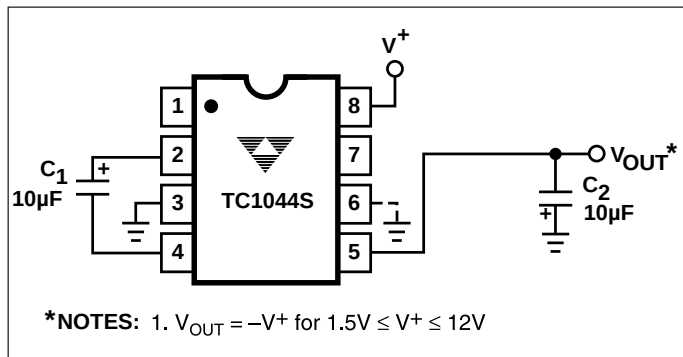
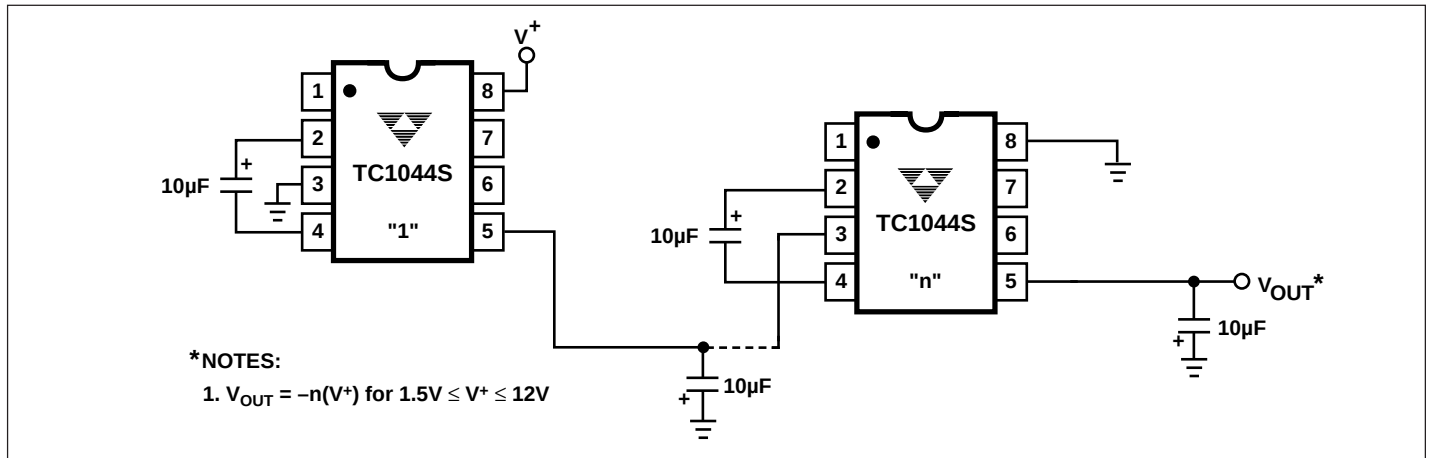
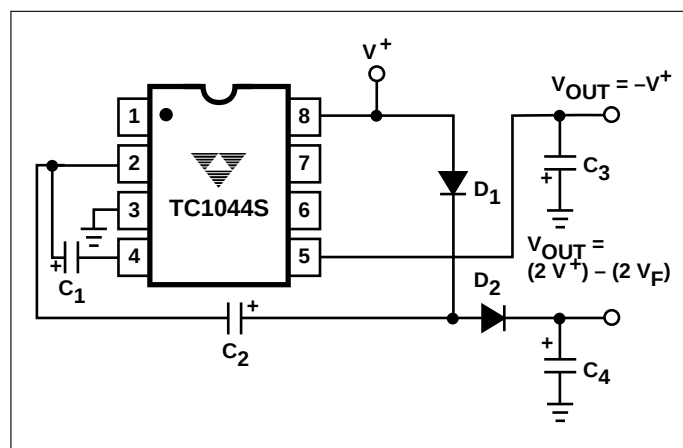
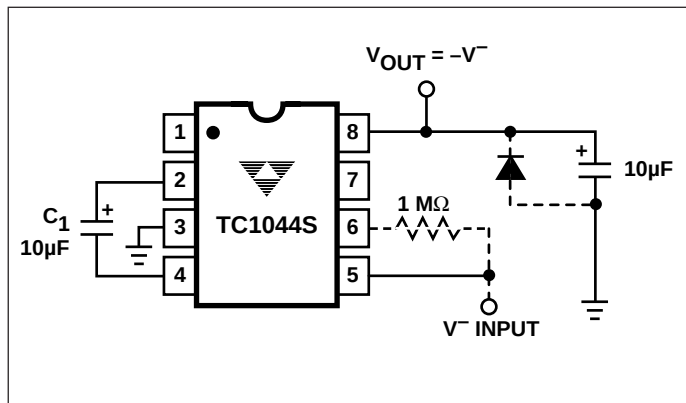

Figure 3. Simple Negative Converter
Figure 5. Increased Output Voltage by Cascading Devices
Figure 9. Combined Negative Converter and Positive Multiplier
Figure 10. Positive Voltage Conversion
Figure 3 shows typical connections to provide a negative supply where a positive supply is available. A similar scheme may be employed for supply voltages anywhere in the operating range of +1.5V to +12V, keeping in mind that pin 6 (LV) is tied to the supply negative (GND) only for supply voltages below 3.5V.
The output characteristics of the circuit in Figure 3 are those of a nearly ideal voltage source in series with  $70\Omega$ . Thus, for a load current of  $-10mA$  and a supply voltage of  $+5V$ , the output voltage would be  $-4.3V$ .
The TC1044S may be cascaded as shown (Figure 5) to produce larger negative multiplication of the initial supply voltage. However, due to the finite efficiency of each device, the practical limit is 10 devices for light loads. The output voltage is defined by:
Figure 9 combines the functions shown in Figures 3 and 8 to provide negative voltage conversion and positive voltage multiplication simultaneously. This approach would be, for example, suitable for generating +9V and -5V from an existing +5V supply. In this instance, capacitors  $C_1$  and  $C_3$  perform the pump and reservoir functions, respectively, for the generation of the negative voltage, while capacitors  $C_2$  and  $C_4$  are pump and reservoir, respectively, for the multiplied positive voltage. There is a penalty in this configuration which combines both functions, however, in that the source impedances of the generated supplies will be somewhat higher due to the finite impedance of the common charge pump driver at pin 2 of the device.
Since the switches that allow the charge pumping operation are bidirectional, the charge transfer can be performed backwards as easily as forwards. Figure 10 shows a TC1044S transforming -5V to +5V (or +5V to +10V, etc.). The only problem here is that the internal clock and switch-drive section will not operate until some positive voltage has been generated. An initial inefficient pump, as shown in
Figure 9, could be used to start this circuit up, after which it will bypass the other ( $D_1$  and  $D_2$  in Figure 9 would never turn on), or else the diode and resistor shown dotted in Figure 10 can be used to "force" the internal regulator on.
The same bidirectional characteristics used in Figure 10 can also be used to split a higher supply in half, as shown in Figure 11. The combined load will be evenly shared between the two sides. Once again, a high value resistor to the LV pin ensures start-up. Because the switches share the load in parallel, the output impedance is much lower than in the standard circuits, and higher currents can be drawn from the device. By using this circuit, and then the circuit of Figure 5, +15V can be converted (via +7.5V and -7.5V) to a nominal -15V, though with rather high series resistance ( $\sim 250\Omega$ ).